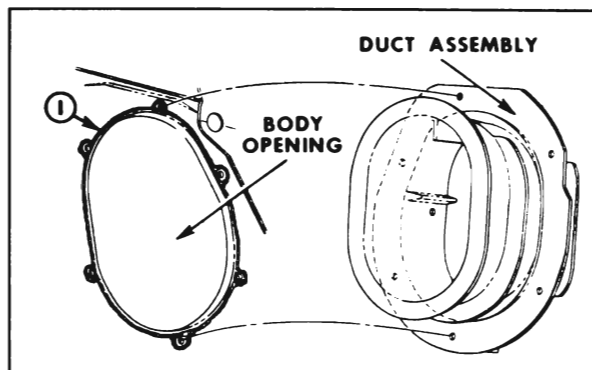

Fig. 1-45—Shroud Duct Sealing
3. To install, apply a bead of medium-bodied sealer to shroud panel at areas indicated by #1 in Figure 1-45 and reverse removal procedure.